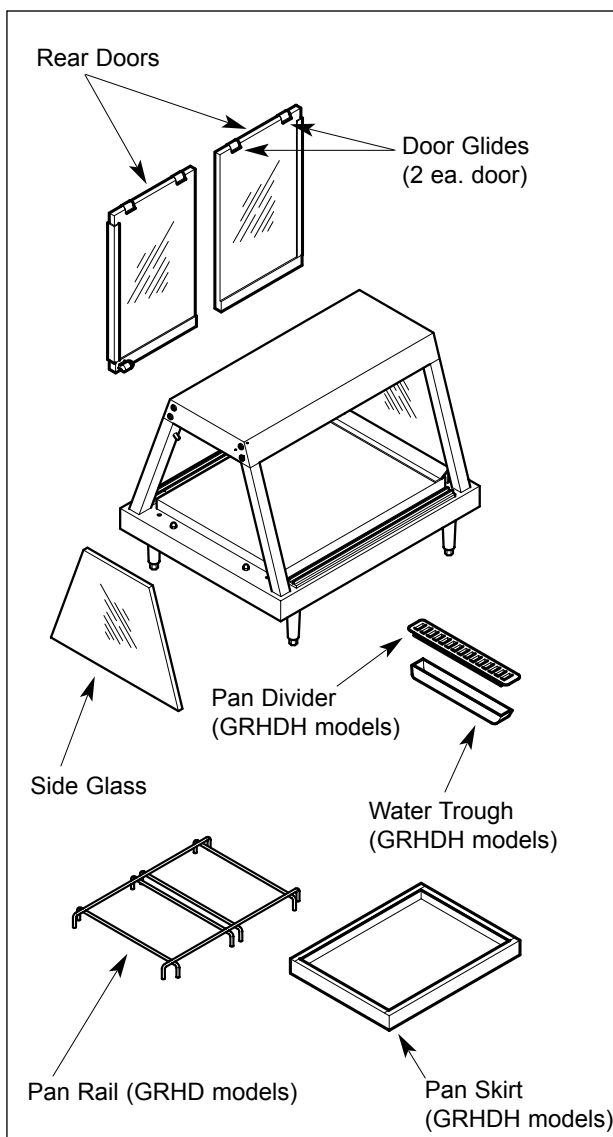

Figure 10. Exploded View - GRHD Models
2. Remove all components from inside the unit. See Figure 10.
3. Remove all doors by grasping the door edges then lifting up and out of the bottom channel. See Figure 10. Discard the protective cardboard from top of each door.
NOTE: Do not remove the plastic glides from top of door glass. See Figure 10.